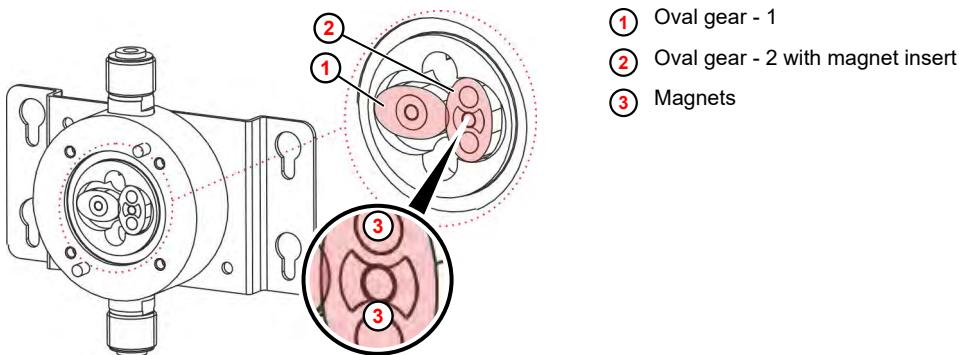

Fig. 20: Oval gear meter
The oval gear wheels must be inserted so that they are offset to each other by exactly 90° (Fig. 20, items ① + ②).